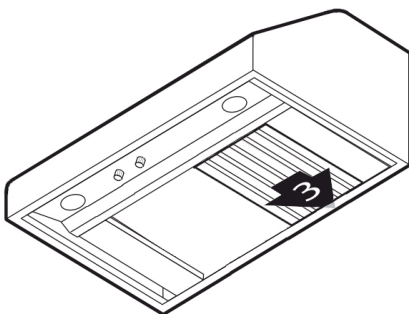

FIGURE 11: INSTALL THE STAINLESS STEEL BAFFLES – PART C
- c. Slide the baffle filter backward clearing the catch and rest securely on back edge of hood (FIGURE 11).